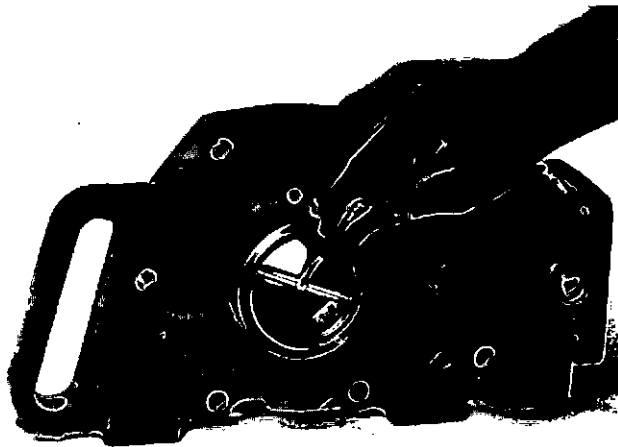

Fig. 8-43 (N10884). Measure The Bore In The Housing.
8. Check the water pump housing for damage. Measure the housing bore, Fig. 8-43. Discard the housing if the bearing bore is larger than 2.4494 inches [62.215 mm]. Make sure the weep hole in the housing is open.